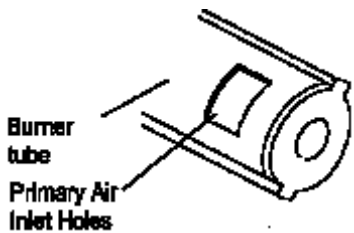

Figure 24 -Injector Holder on Outlet Burner Tube
2. Inspect burner, pilot and primary air inlet holes on injector holder for dust and dirt (see Figure 24).